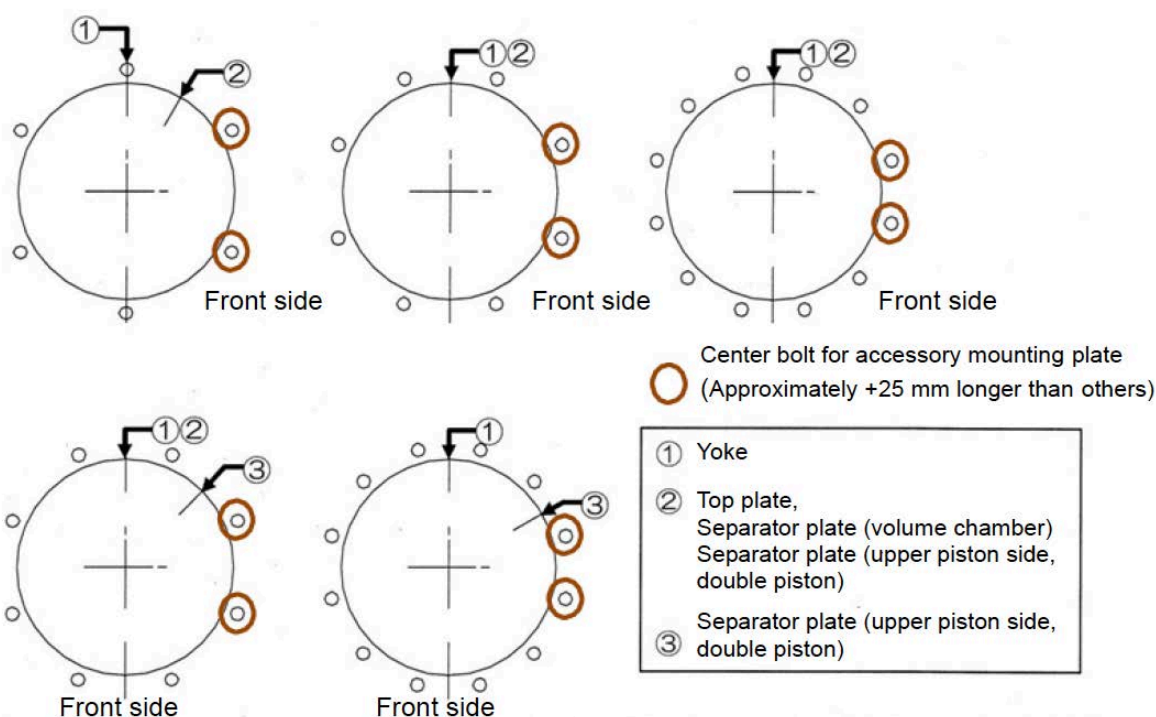

Figure 19 - Center bolt Positioning
12. Ensure the positions of the air connections are correct. Insert the center bolts into the holes of the top plate and yoke. Mount the spring washers and nuts and tighten them lightly by hand. Mount the spring washers and nuts to the bottom side of the yoke by hand. Ensure that the position of center bolts (approximately +25 mm longer than others) for the accessory mounting plate, if equipped, complies with Figure 19.